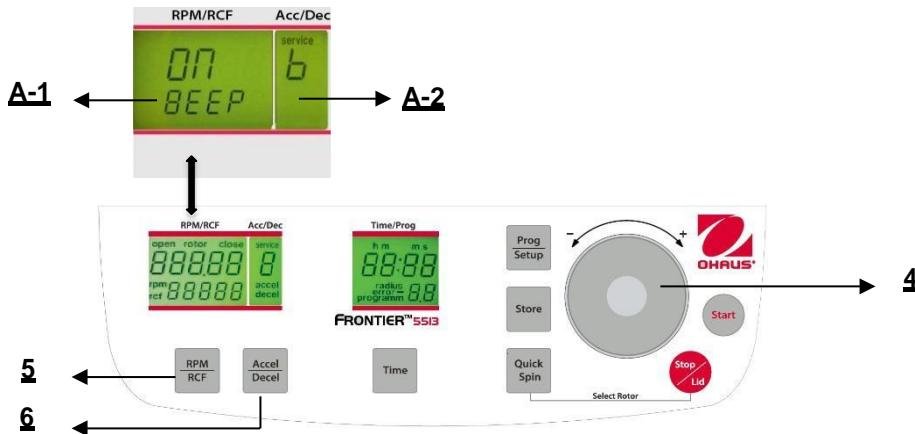

Figure. 30
Proceed as described under point 4.1.2 to enter this program mode and then press the key "Accel/Decel" (6). In the display "Acc/Dec" (A-2) the word "Service" flashes. Now select the letter "B". with the adjusting dial (4). As a result, in the display "RPM/RCF" (A-1), the word "ON/BEEP" appears. After pressing the key "RPM/RCF" (5), you can turn the keyboard sound (On) or (Off) with the adjusting dial (4). (see figure 30).